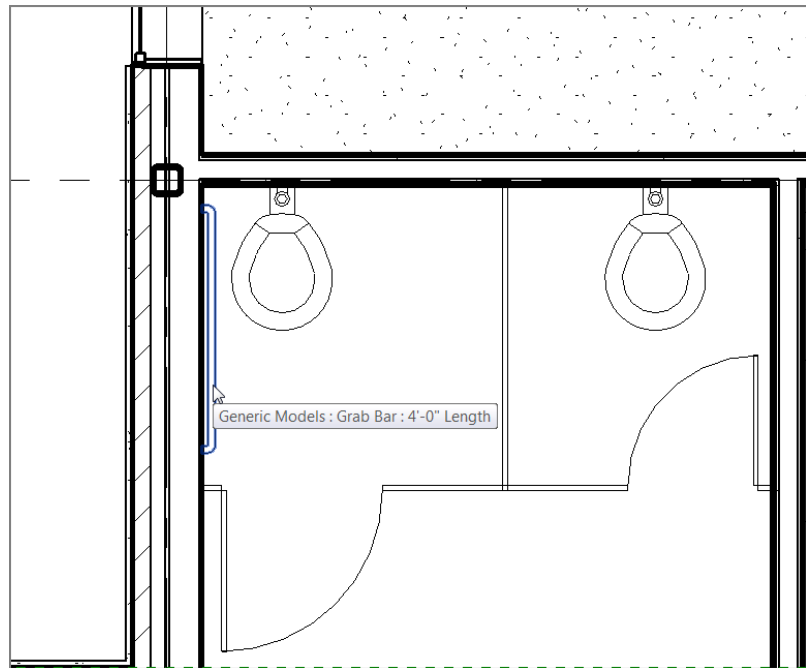

FIGURE 9.39: Adding the grab bar family to the wall
1. Zoom in on the accessible stall, as shown in Figure 9.39.
4. Place the grab bar along the wall (see Figure 9.39).